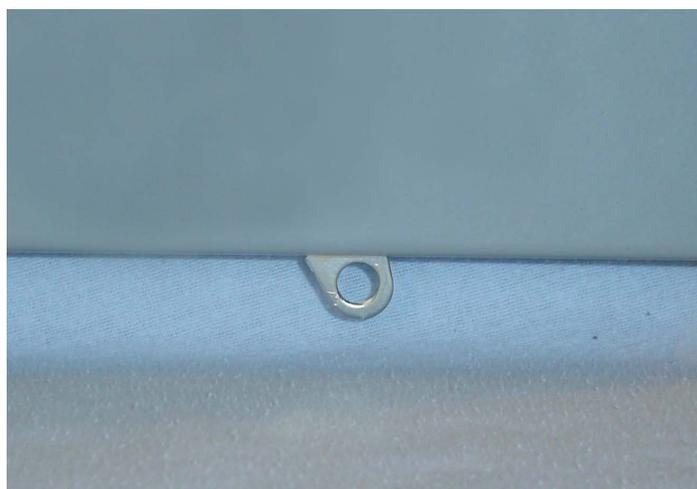

Figure 10. Location of the Door Latch.
Step 1: Depress the padlockable catch at the bottom of the door and slide the door downward (see Figure 10). Open the door and remove the deadfront.